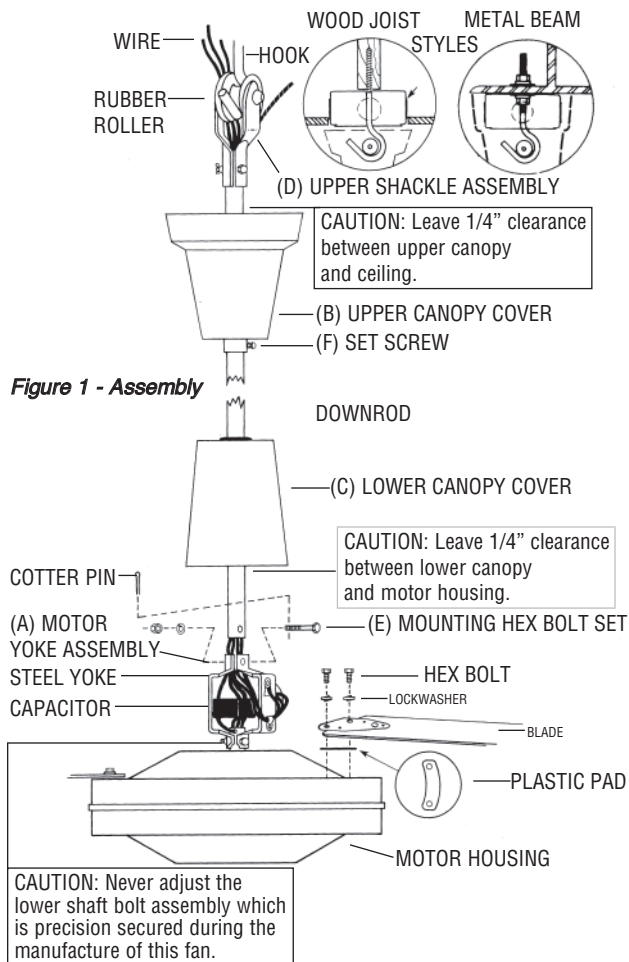

Figure 1 - Assembly
2. At the motor yoke assembly (A), remove the cotter pin and loosen the hexagon nut. Carefully remove spring washer and the hexagon screw (E). (See Figure 1)
3. Slide the upper canopy cover (B) (bell shaped) up the rod. Slide the lower canopy cover (C) up to rod.
4. Feed the three wires and the safety cable through the center hole in the steel yoke connecting piece above the motor (A) and then continue feeding wires and cable through the downrod until the wires and cable come out at the upper shackle end (D).
5. Mount the downrod to the yoke (A) and replace the hexagon screw. Secure the spring washer hexagon nut and spread the cotter pin.
CAUTION: Blades must be fastened to the motor as shown in Figure 1. DO NOT reverse blades when installing.